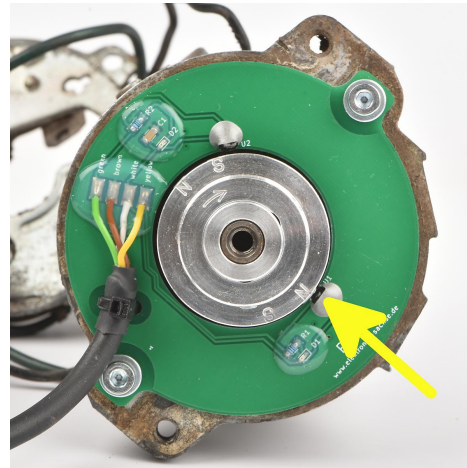

Figure 11 The sensor used for the initial setup.
- Rotate the disk in rotation direction until the S-marked magnet is close to the sensor (see figure 11). It doesn't matter which of the two S-marked magnets is used.